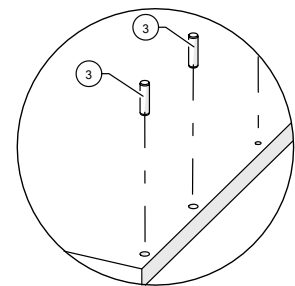

Figure 10A
- 13.** Push the wooden dowels into the pre-drilled 8 mm holes of the border-upper, and border-bottom, and then lightly tap with a rubber mallet to hold them firmly (Figure 10A).